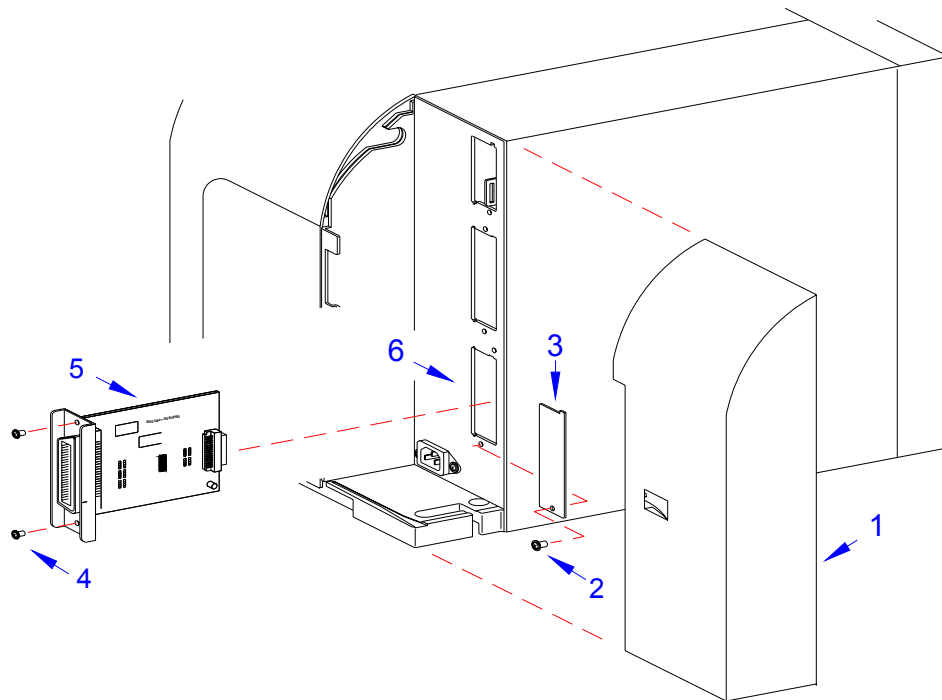

Figure 3-6, External Signal Connector
- 1 Disconnect power supply cord and remove the rear housing cover (1, Figure 3-6).
- 2 Remove screw (2) and plate (3) as required to expose the EXT port.
- 3 Remove two screws (4) and withdraw existing board (5) from frame (6) as required.